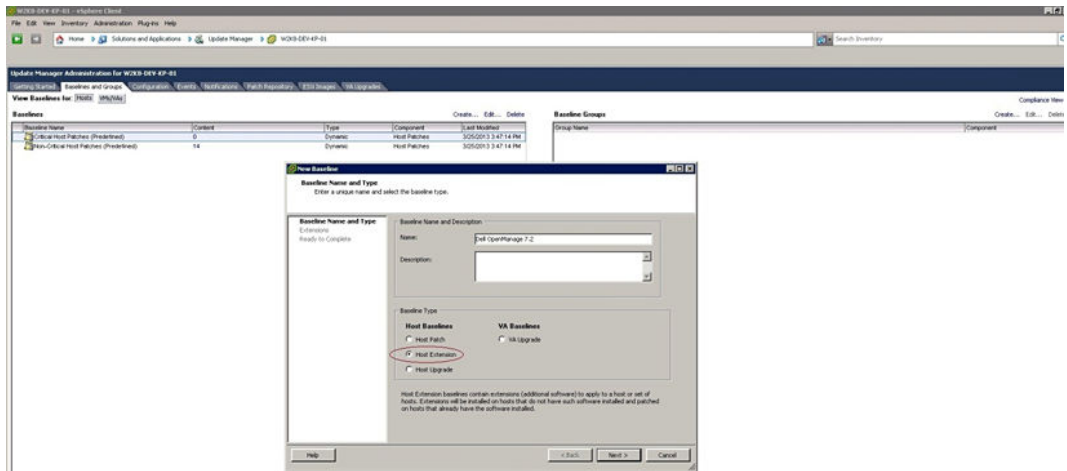

Figure 6. Creating a baseline from OMSA extensions
5. Create a baseline out of the OMSA extensions as shown in figure 6.